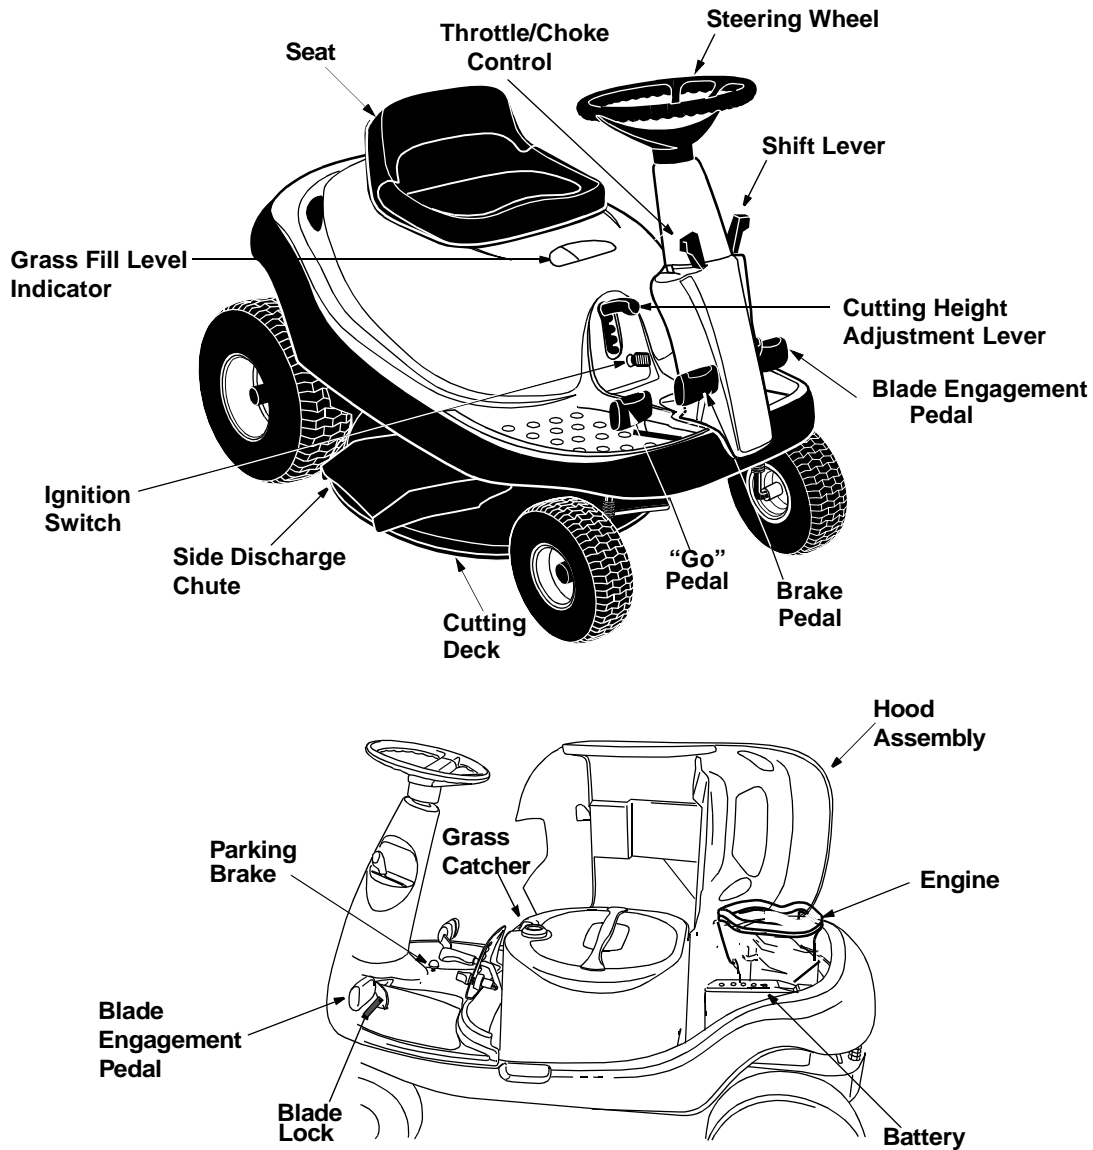

Figure 6
Compare the illustrations in Figure 6 with your rider mower to familiarize yourself with the location of various controls and adjustments. The operation of any rider mower can result in foreign objects being thrown into the operator's eyes, causing severe eye damage. **Always wear safety glasses** before operating the mower, or while performing any adjustments or repairs on it.
**NOTE:** Your rider mower is equipped with a blade lock to keep the blade engaged without the operator having to depress the blade pedal continuously. See Figure 6.